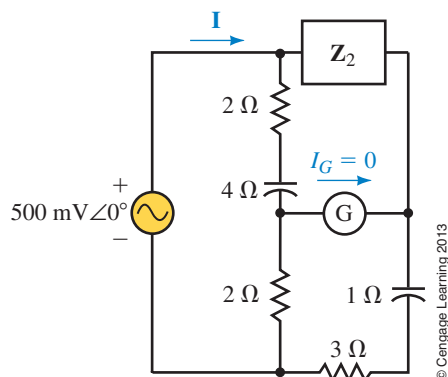

FIGURE 19-71
29. Given that the bridge circuit of Figure 19-71 is balanced: